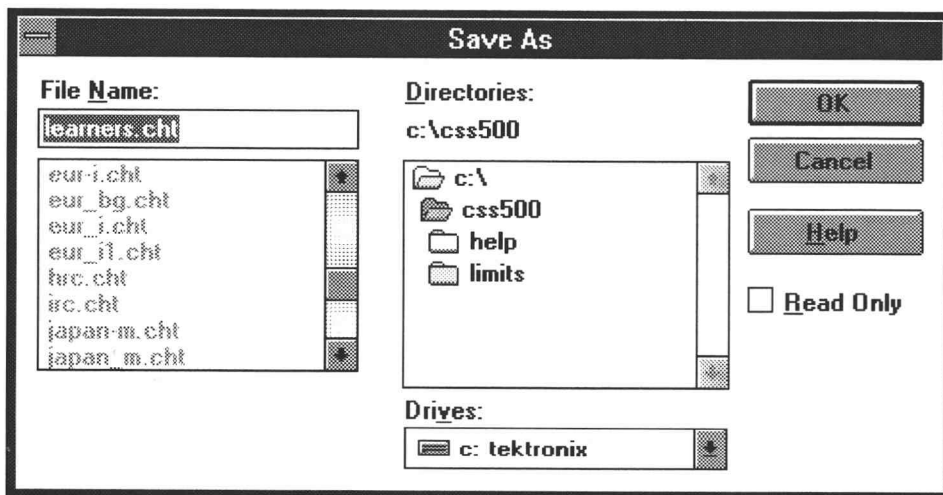

Figure C-8. The Save As dialog box.
- From the File menu, choose Save As. The dialog box looks similar to Figure C-8.